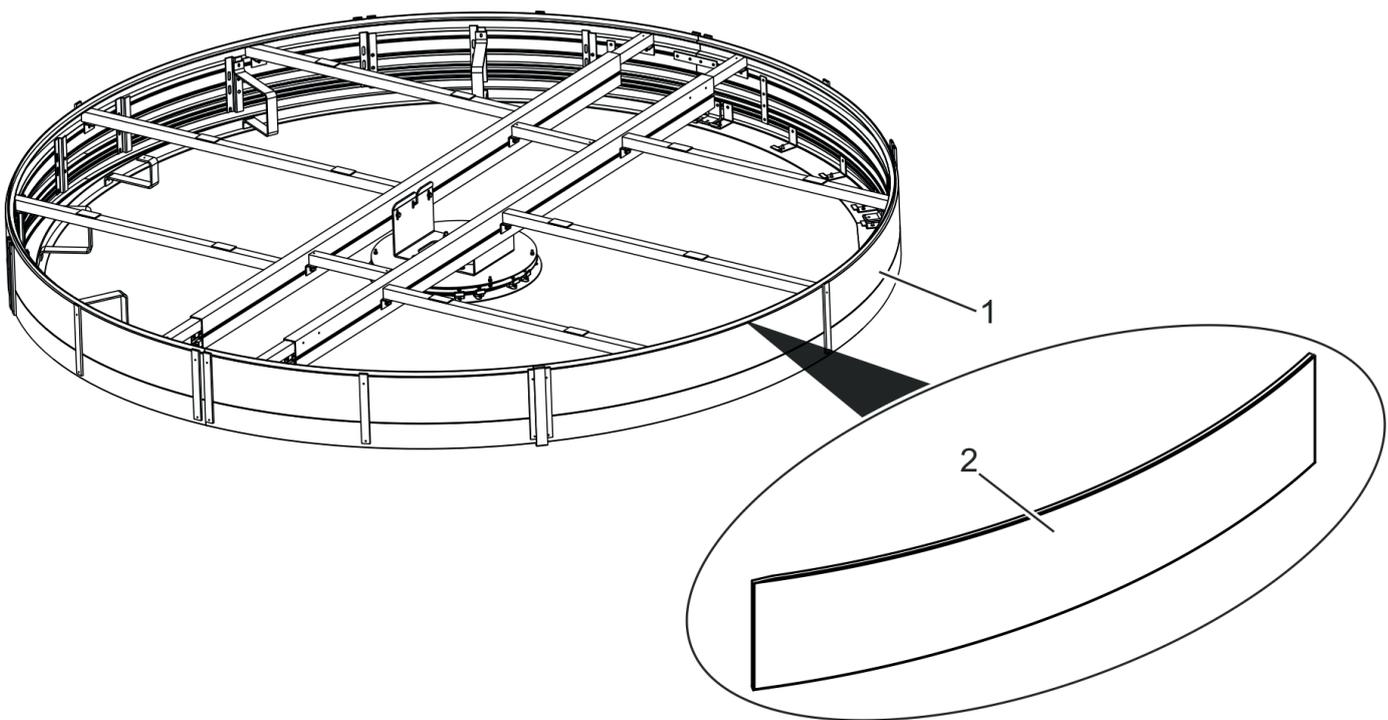

Fig. 114 Suspending the canopy covers
Attach canopy covers on the outside of the building (Fig. 114/2) in succession to the ceiling structure (Fig. 114/1) by means of the Velcro. 2 people are required to suspend large canopy cover.
Attach canopy covers (Fig. 114/2) on the inside of the building in succession to the ceiling structure (Fig. 114/1) by means of the Velcro. 2 people are required to suspend large canopy cover.
7. Check that suspended canopy covers (Fig. 114/2) are positioned evenly and adjust as necessary. Lift the lower edge of the canopy covers slightly and move to the side.
8. Remove front protective film from the canopy covers (Fig. 114/2).
9. Press canopy covers (Fig. 114/2) on evenly manually.